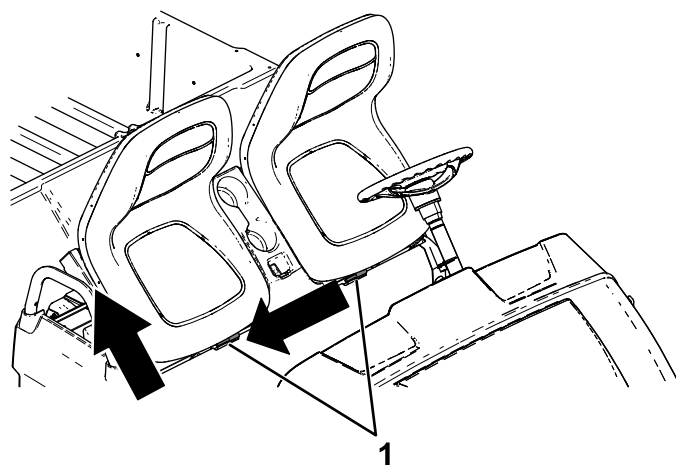

Figure 27
2. Slide the seat assembly to the side out of the pins, and lift the seat assembly upward (Figure 27).